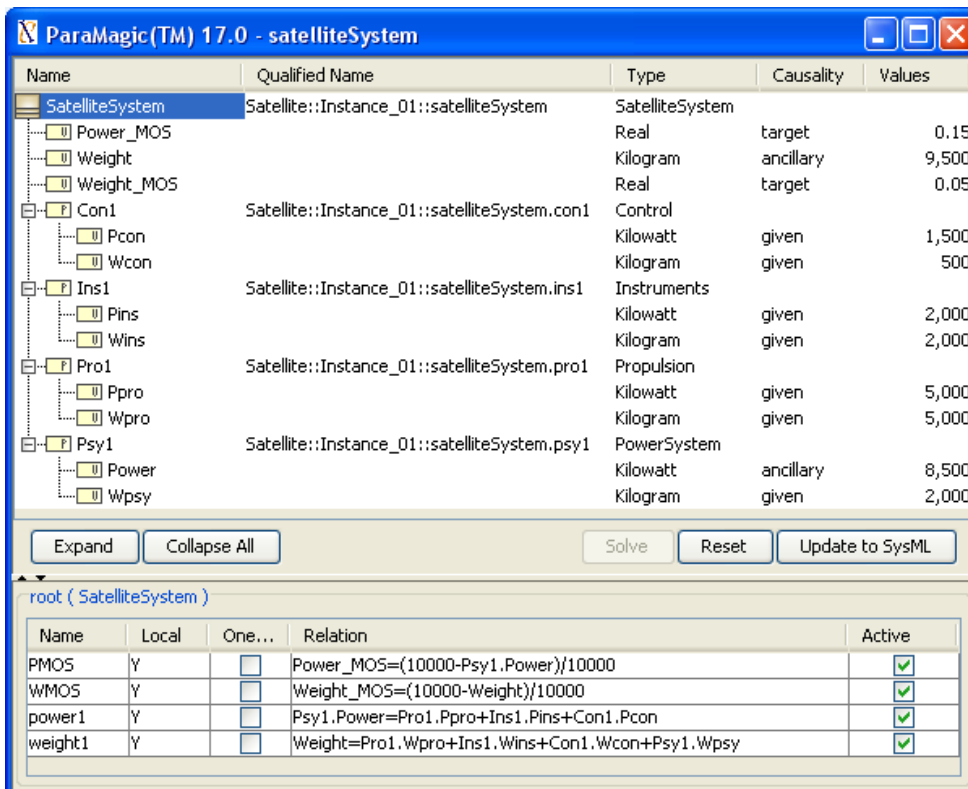

Figure 3.12 ParaMagic Browser for Instance_01, after solution
- i. The results in Figure 3.12 show positive values of **Weight_MOS** and **Power_MOS**. In other words, both requirements have been successfully met with positives margins of safety.
- b. To change a *target* or *undefined* value to a *given*, or a *given* value to *target* or *undefined*, change the causality for that parameter. In Figure 3.12, the problem has been inverted.